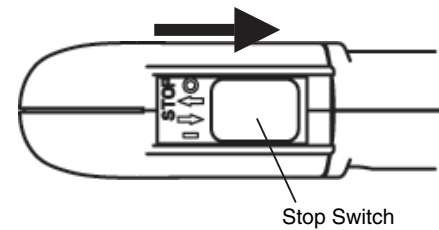

Figure 1
Assure engine is on a flat horizontal surface as shown in Figure 1.
- If the engine is not positioned as in Figure 1 on a horizontal surface, an inaccurate indication of oil level may occur.
- (1) Set this machine on a flat space.
- (2) Set the stop switch to "I" position (Figure 1).
- (1) Confirm that the tank cap is tightened securely.
- (2) Detach the oil cap.
- (3) Tilt the machine in order as shown in Figure 1.